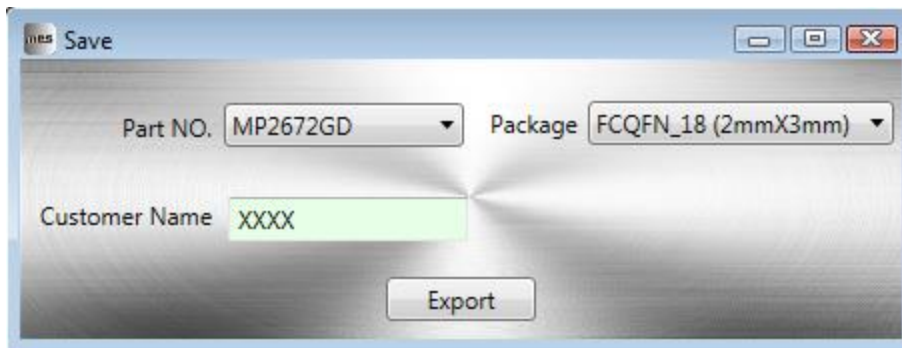

Figure 10: Select "Export"
5. Select values from the drop-down menus. Be sure all the parameters are populated before exporting. Export the configuration by clicking "Export" in the toolbar (see Figure 10).